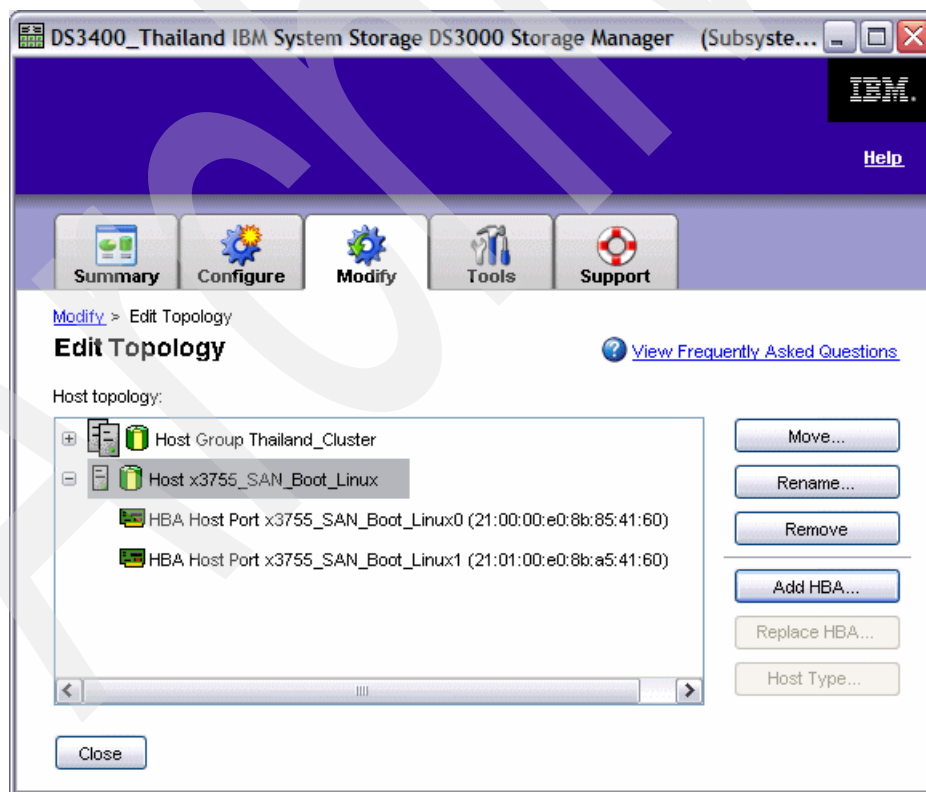

Figure 26-26 Both host ports are defined
3. Set the correct values for WWPN, host type, and host port alias, and then click **Add**. As you can see in Figure 26-26, our host server now contains both host port definitions.